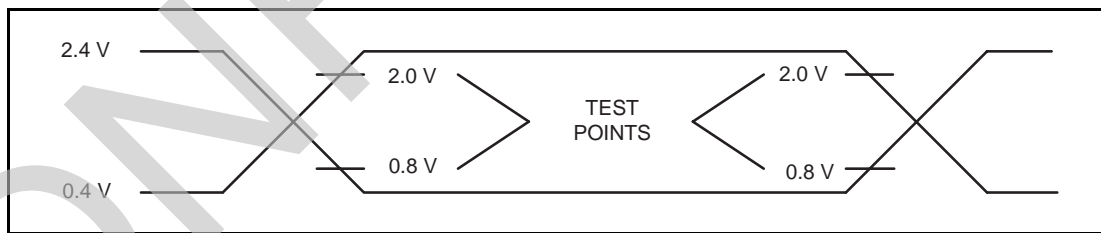

Figure 27 - Timing Diagram Test Points
- Refer to Figure 27 for timing diagram test points.
1. Refer to Figure 27 for timing diagram test points.